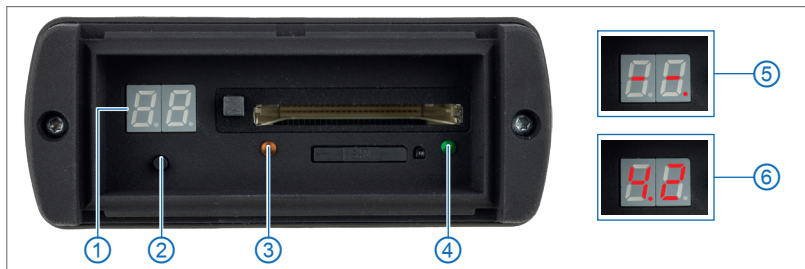

Fig. 3-3: UniCAN 3: example showing LED and status indicators on front
In Fig. 3-3, the orange / green flashing network LED ③ indicates activity. A continuously lit green status LED ④ indicates idleness, as a memory card is not inserted. Pushing the button ② activates the status indicator ①. “--.” appears as status value of the measurement ⑤ and confirmation of idle mode (see Tab. 3-5). Pressing the button again calls up “4.2” as status of the transmission ⑥, i.e. the data logger attempts to establish a network connection (see Tab. 3-4).